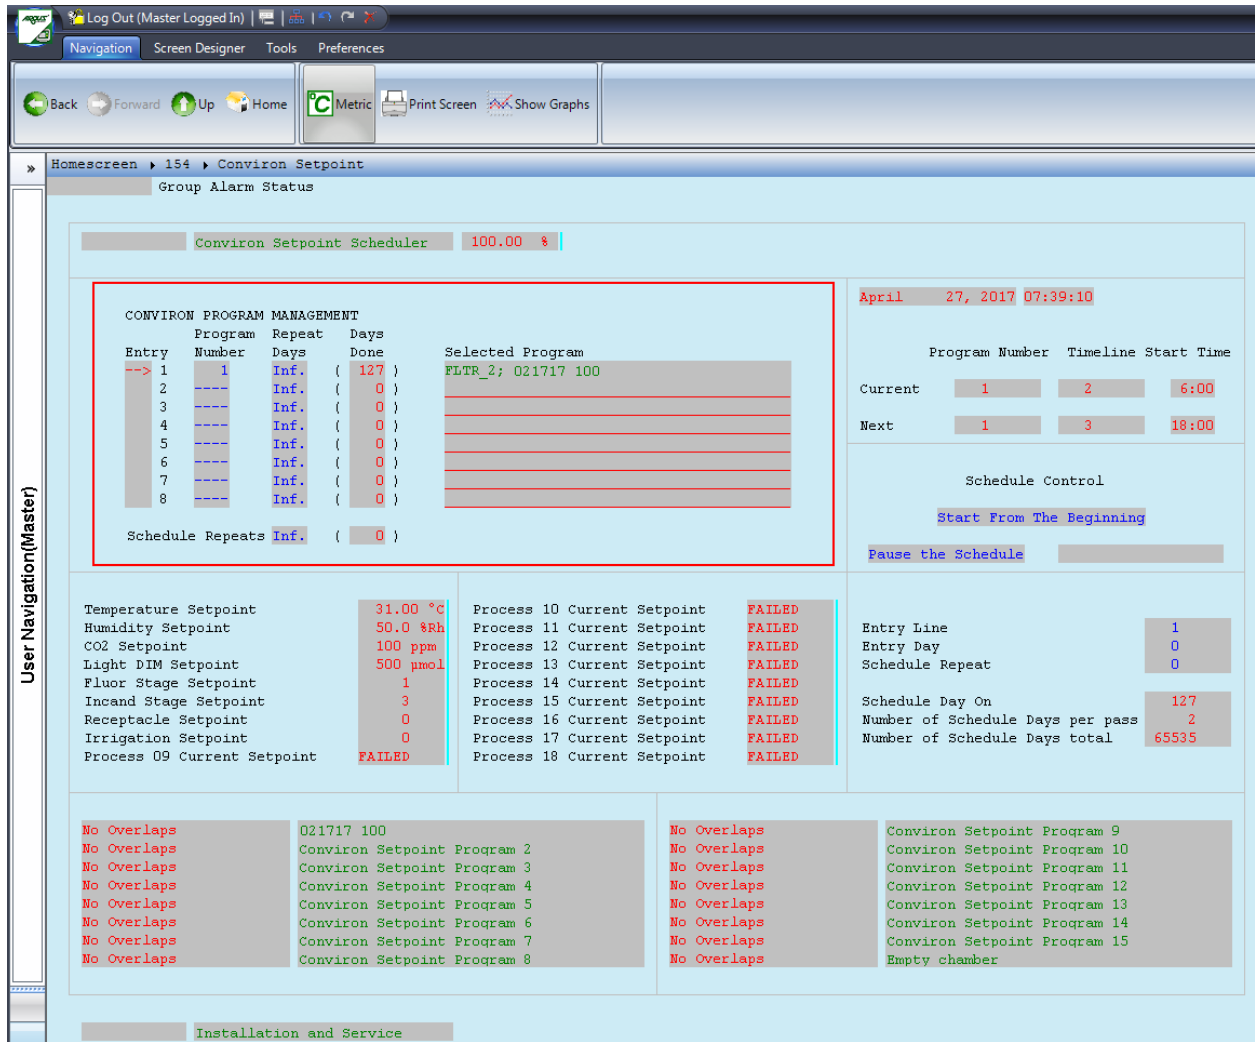

Figure 2-4 Setpoint Scheduler Screen – Convicon Program Management Section
- In the **CONVIRON PROGRAM MANAGEMENT** section > **Selected Program** column, select a program (Figure 2-4).